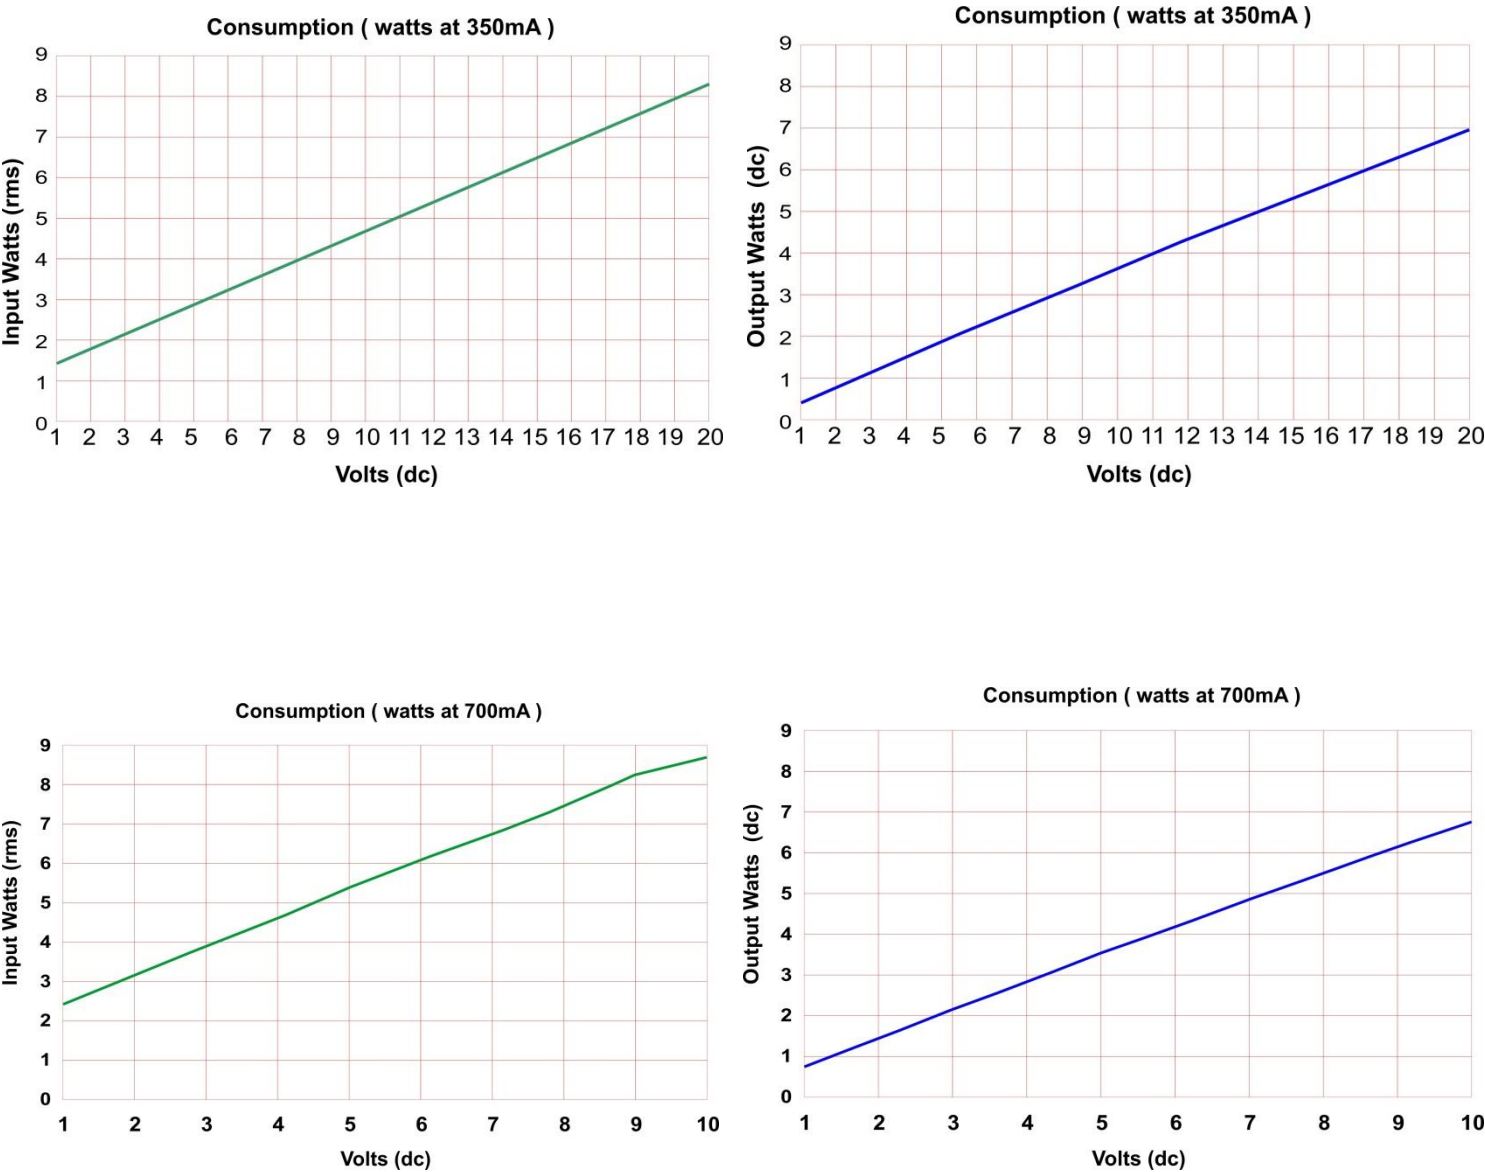

Figure 4: Loading chart
1. The 7 watts (DC) limit of the clipNslide™ shall not be exceeded.
2. Load calculation shall be done according to the chart on figure 4. The number of LEDs that can be driven will vary according to each specific LED and the design of the LED array.
- To calculate the watts that LEDs will take on the clipNslide™ dc circuit use the “output (watts dc)” curve on figure 4.
- Depending on the load that is put on the clipNslide™ the mA to the LED will vary. Validate with the “mA to LEDs” curve of figure 4.